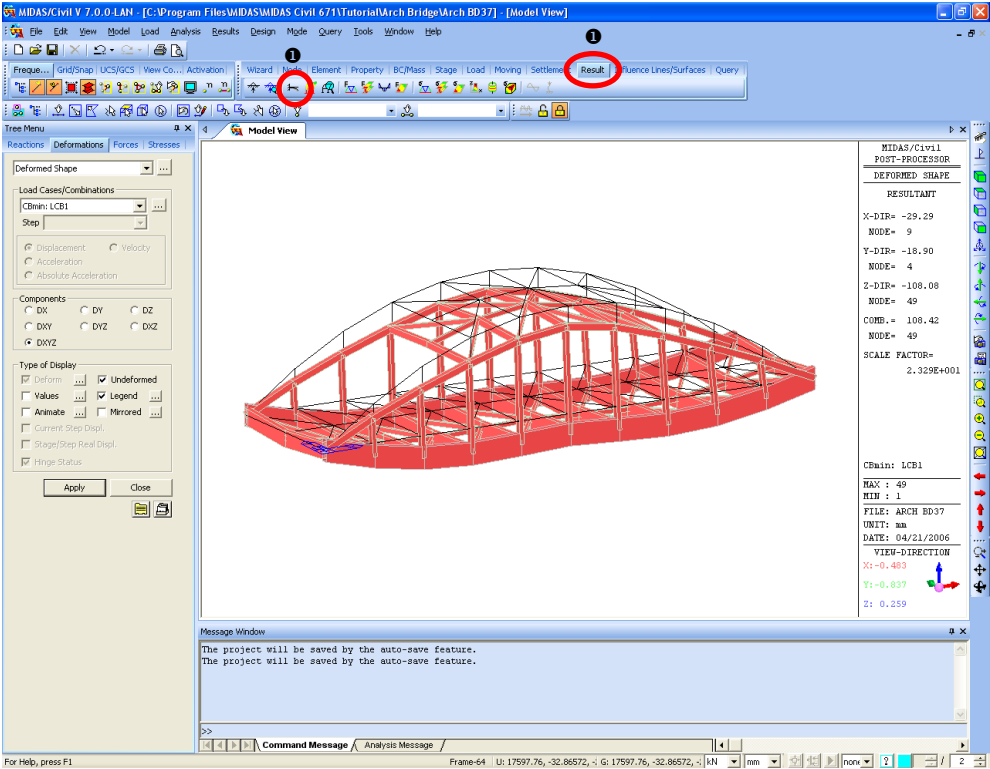

Figure 4.27 Deformed Shape
Use the following procedure to check the deformed shape (Figure 4.27):
1. Click  **Deformed Shape** on the **Result** tab in toolbar (Figure 4.27①).